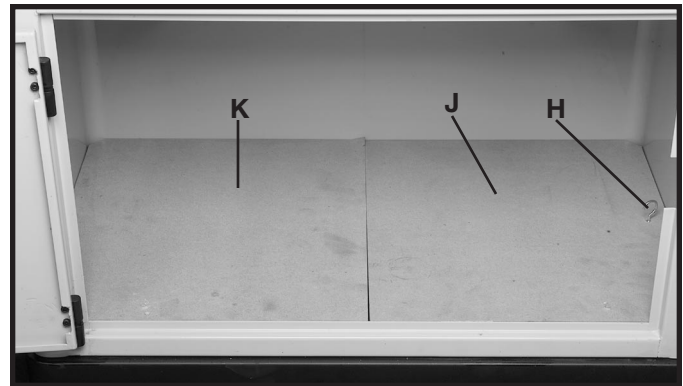

Fig. 3
3. Lift up on hook (H) Fig. 3, and remove the shelves (J) and (K).